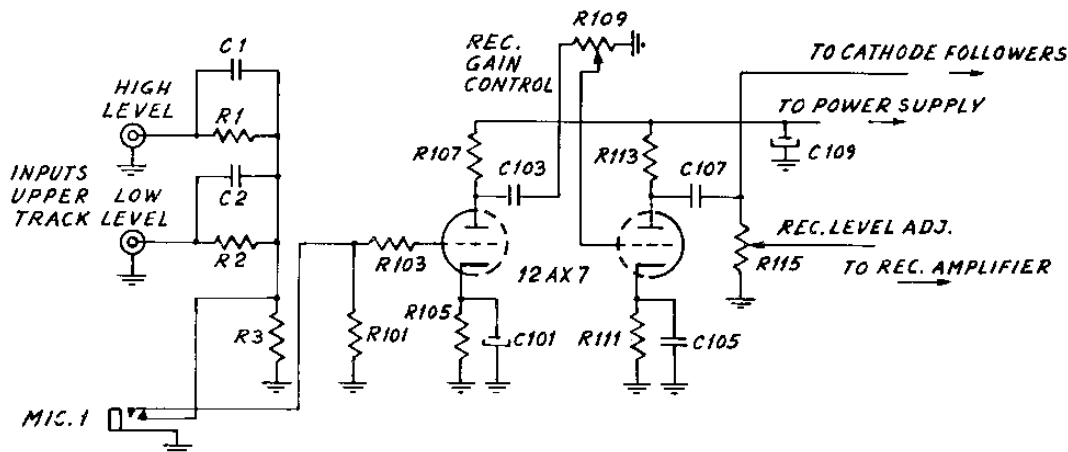

Fig. 22. Preamplifier for Recording.
4.2.1 Preamplifier for Recording. (Fig. 22).